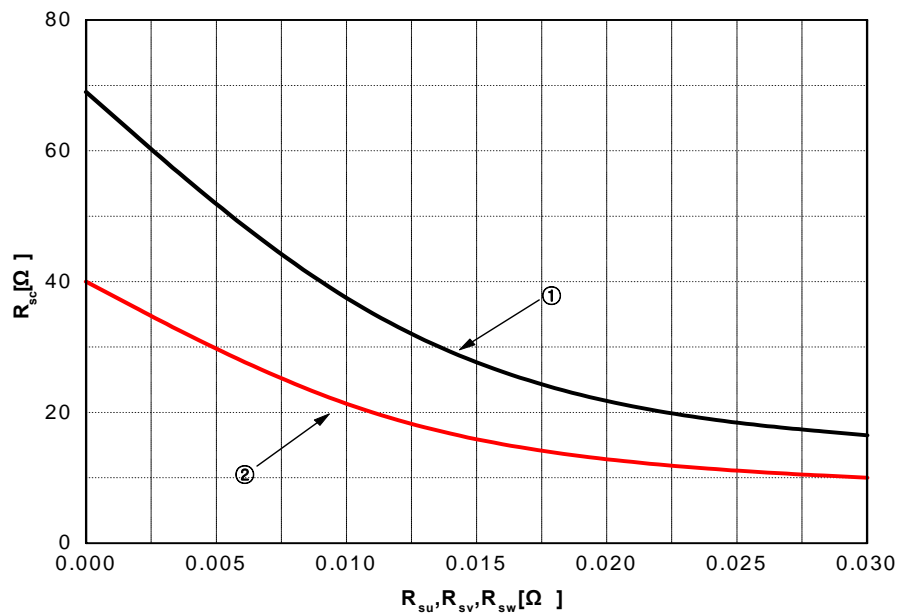

Fig. 6. R_{SC} Variation by change of Shunt Resistors (R_{SU} , R_{SV} , R_{SW}) for Short-Circuit Protection
5. Short-circuit current protection is functioning only at the low-sides. It would be recommended that the value of the external sensing resistor (R_{SC}) should be selected around $40\ \Omega$ in order to make the SC trip-level of about 75A at the shunt resistors (R_{SU}, R_{SV}, R_{SW}) of $0\ \Omega$. For the detailed information about the relationship between the external sensing resistor (R_{SC}) and the shunt resistors (R_{SU}, R_{SV}, R_{SW}), please see Fig. 6.